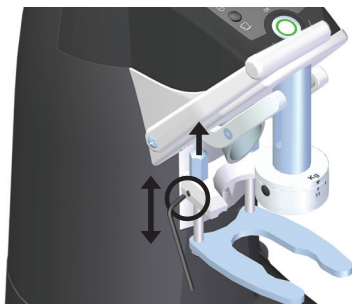

Fig. 2
1. Remove screw caps (Fig. 2) using a flat headed screw driver.
3. Replace and tighten the screw caps (Fig. 2).